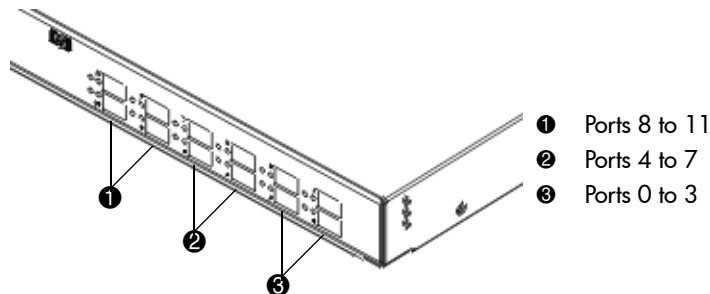

Figure 1: Edge Switch 2/12 port locations
Blue text: Figure 1	Cross-reference links
Ports 0 through 3 of the Edge Switch 2/12 are populated when you receive it (Figure 1, reference ③).
1. Insert 4 new SFP transceivers into ports 4 through 7 (Figure 1, reference ②).
Ports 0 through 7 should be populated after you have completed the procedure described in “Upgrading to 8 Ports” on page 13 (Figure 1, reference ② and ③).
1. Insert 4 new SFP transceivers into ports 8 through 11 (Figure 1, reference ①).